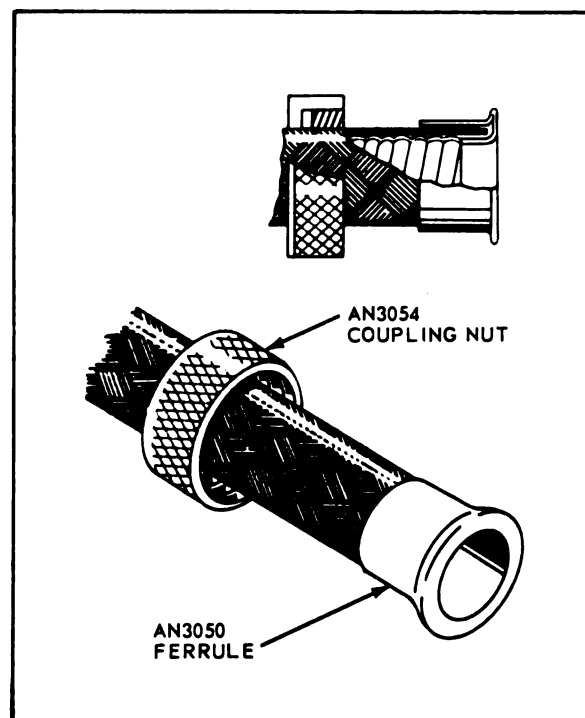

Figure 11-14. Bare Flexible Conduit Ready for Swaging
- j. Slip nut on to conduit, and insert conduit end into ferrule until conduit bottoms, as shown in figures 11-14 and 11-15.
h. Slide nut on conduit and insert conduit end into ferrule as far as it will go. See figure 11-14.